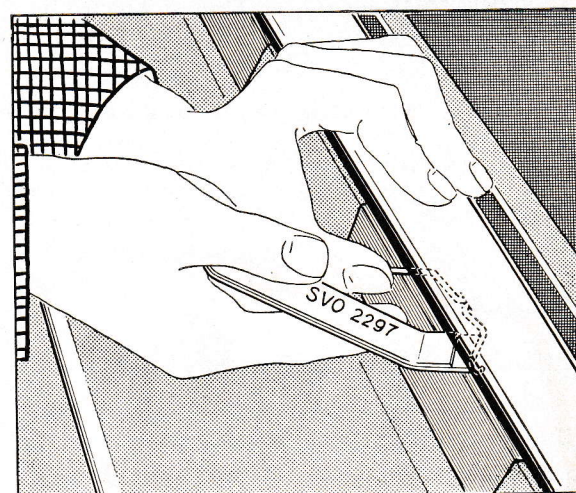

Fig. 40. Fitting spring clip.
5. The spring clips are fitted with the help of tool SVO 2297, see Fig. 40. When fitting, make sure that the tool does not cut through the tape, otherwise the paintwork will be damaged.